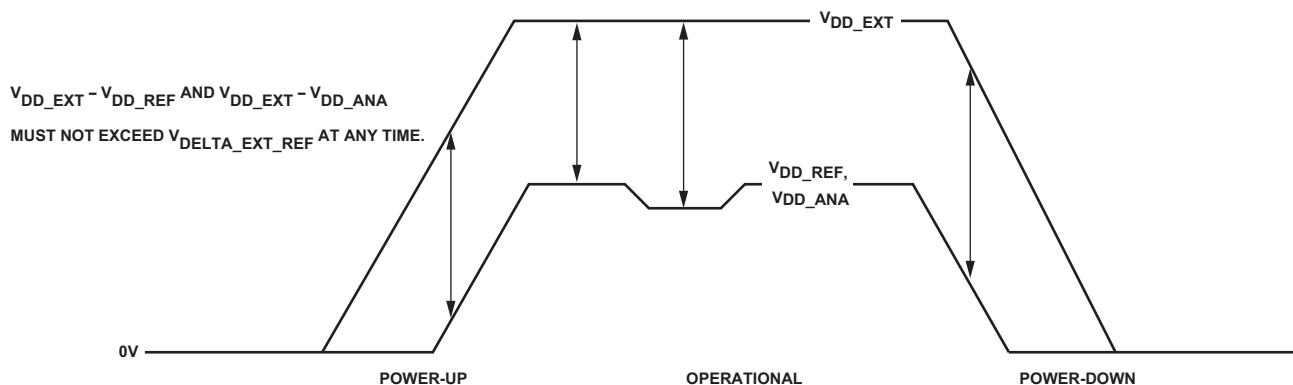

Figure 8. Power-Up and Power-Down Voltage Delta Requirement
1. The $V_{\Delta_EXT_REF}$ specification must be met at all times, including during power-up reset and when powering down the device (Figure 8).